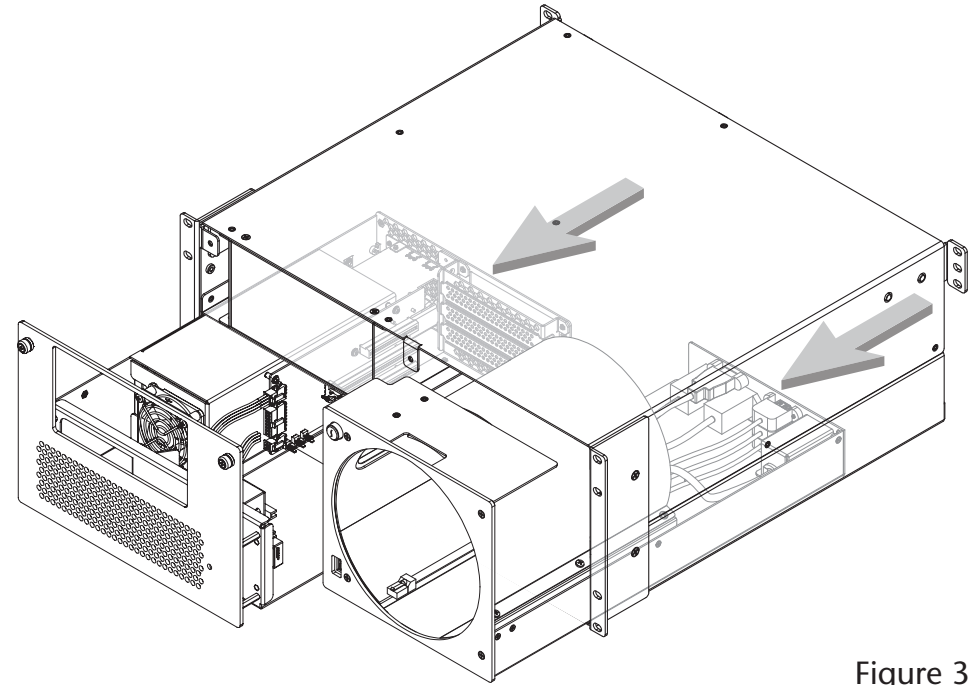

Figure 3
4. Gently pull out the computer mounting and PCIe card expansion modules through the front of the enclosure, and then set them aside (**Figure 3**).